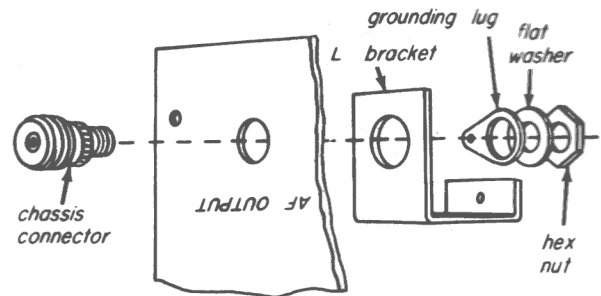

Fig. 20-7
Step 5. Disassemble the second chassis connector, and put aside one of the flat washers. Insert this connector in the hole in the front panel marked AF OUTPUT. On the other side of the front panel, mount the small L-shaped support bracket on the threaded portion of the connector, followed by a grounding lug, flat washer, and hex nut, as shown in Fig. 20-7. Label this connector on the back of the panel, too.